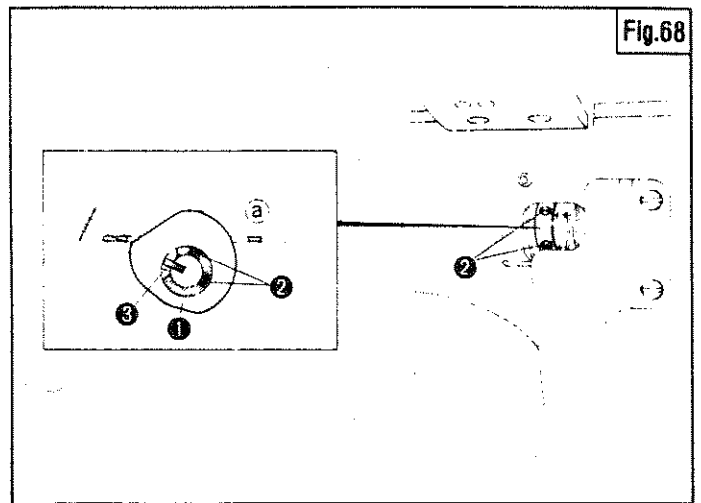

Fig.68
SPREADER THREAD TAKEUP ADJUSTMENT(Fig.68)
- ① should be installed so that Stop Screw ③ comes in the center of the ring opening as shown in Fig.68.
- ① and ⑬ (page 19) should be adjusted so that Spreader Thread is cast off between the time when the thread is traversed by the action of Spreader Thread Hook and the time when Needle Bar begins to move up.